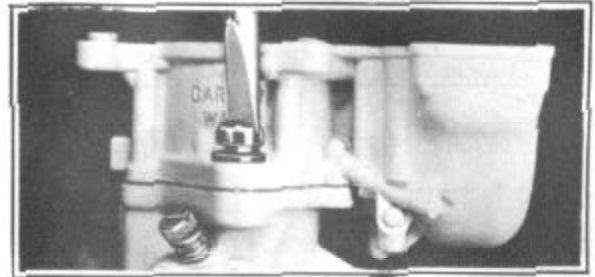

FIGURE 28
9. Assemble body and body flange assembly, Figure 28. Install screws and lockwashers. Pull screws down evenly.